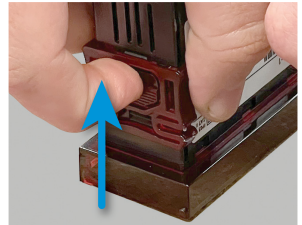

Figure 3: Pull the clips in the direction shown by the arrow.
2. Remove the ratchet clips from the controller by pressing down on the tab and sliding back until they are off the controller as shown by the arrow in **Figure 3**.